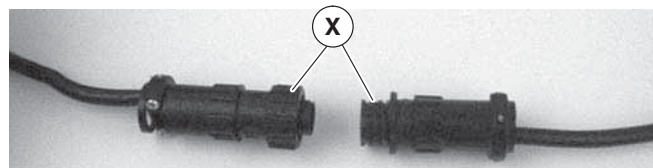

Figure 14
3. For DC variable speed motor, unplug motor cord at disconnect (Figure 14, item X).